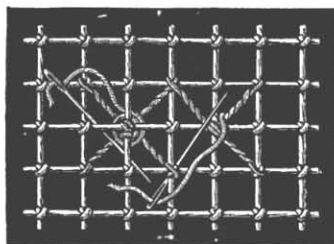

Fig. 31. Laying the first threads for making a wheel, and the beginning of a wheel.
**Wheels worked in single darning stitch, and in interverted darning stitch** (figs. 31 and 32). — To make these wheels, or spiders, as they are sometimes called, the thread is fastened on at the junction of four squares; carried diagonally to the right and left (fig. 31, left detail) across the empty space and brought back to the middle after winding it round the